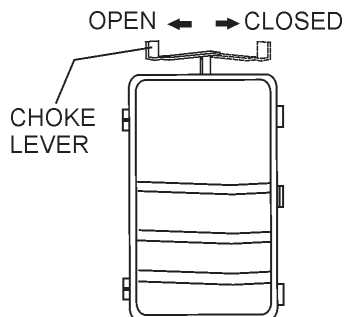

Figure 11. Choke Lever
2. Place the **choke lever** (Figure 11) in the "CLOSED" position if starting a **cold** engine.
3. Place the **choke lever** (Figure 11) in the "OPEN" position if starting a **warm engine** or the **temperature is warm**.
- If the engine has started, slowly return the choke lever (Figure 11) to the **"OPEN"** position. If the engine has not started repeat steps 1 through 5.